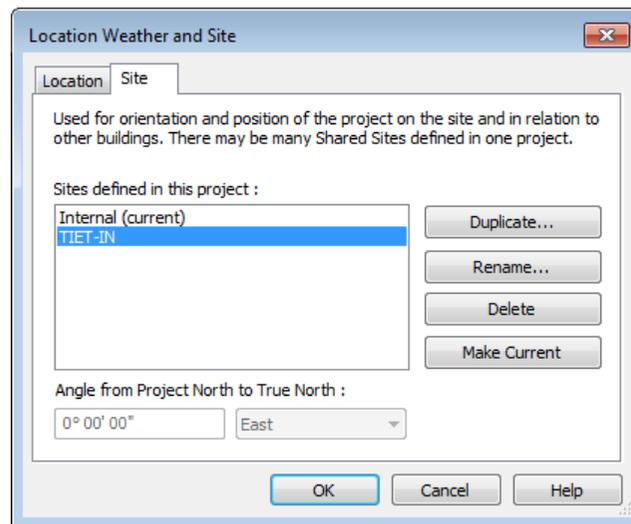

Figure 3-42 TIET-IN selected in the Sites defined in this project list box of the Site tab
- Enter **TIET-IN** in the **Name** edit box and then choose the **OK** button; the **Name** dialog box closes and the name entered is displayed and highlighted in the **Sites defined in this project** list box of the **Location Weather and Site** dialog box, refer to Figure 3-42.